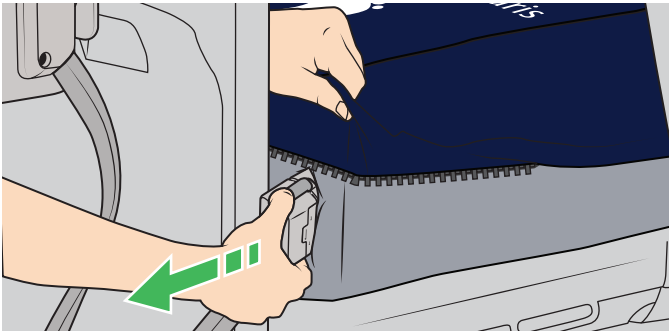

Figure 38
3. Disconnect the pump tube-set connector from the mattress connector. Firmly squeeze the two buttons on the top and bottom of the pump connector and pull it away from the mattress connector. See Figure 38.